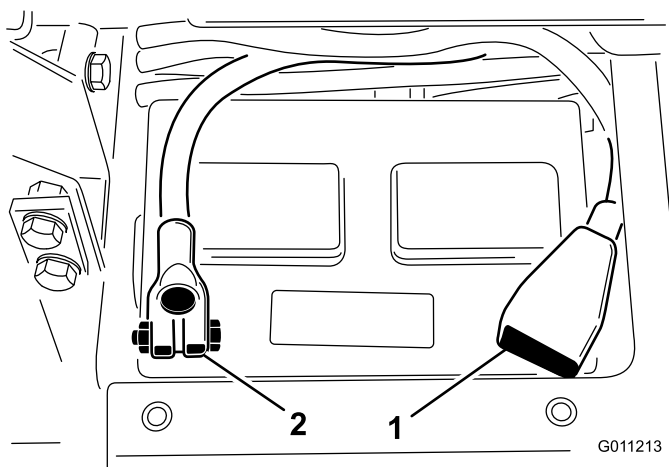

Figure 5
- Install the positive cable (red) to the positive (+) terminal and the negative cable (black) to the negative (-) terminal of the battery and secure them with bolts and nuts (Figure 5). Make sure that the positive (+) terminal is all of the way onto the post and the cable is positioned snug to the battery. The cable must not contact the battery cover.